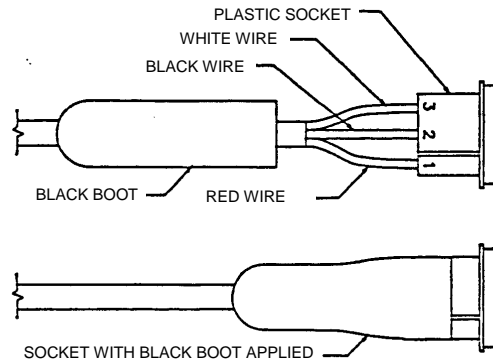

Figure 4
4. Route flashtube leads through stop arm base as shown in figure 3. Next, wire flashtube leads into plastic plugs as shown in figure 4. Finally, plug flashtube leads into the two lamp receptacles on power pack.